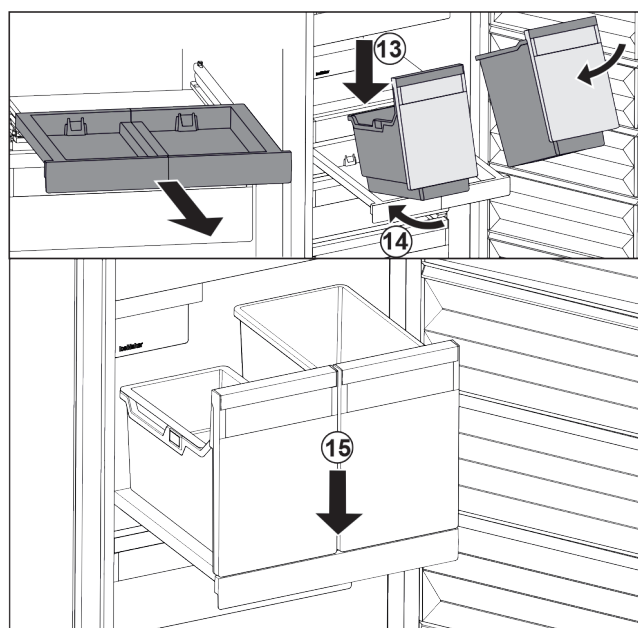

Fig. 31
- Place the container at an angle on the pull-out board. Fig. 31 (13)
- Slide the container to the back at an angle. Fig. 31 (14)
- Place container in the front. Fig. 31 (15)